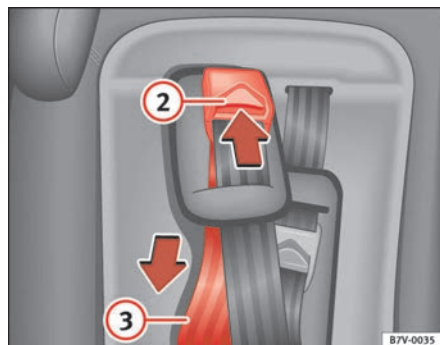

Fig. 39 Integrated child seats, adjusting harness belt
- Press and hold the release button ⇒ fig. 39 (2) in the direction of the arrow.
- With the release button pressed, pull the lower part of the harness belt (3) down in the direction of the arrow. ■